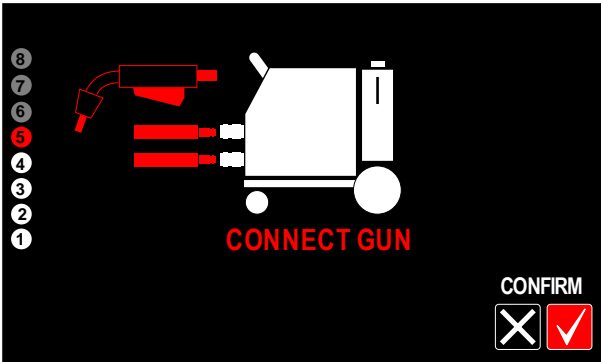

Figure 19
- Connect the torch hoses – (Figure 19).